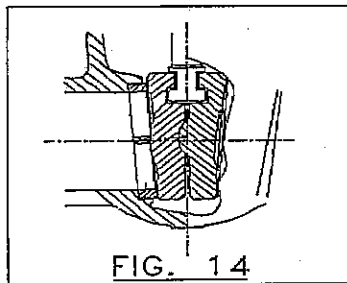

FIG. 14
- *Figure 14* ► it represents a wedge type "Split" which can be manufactured at the request of the customer.